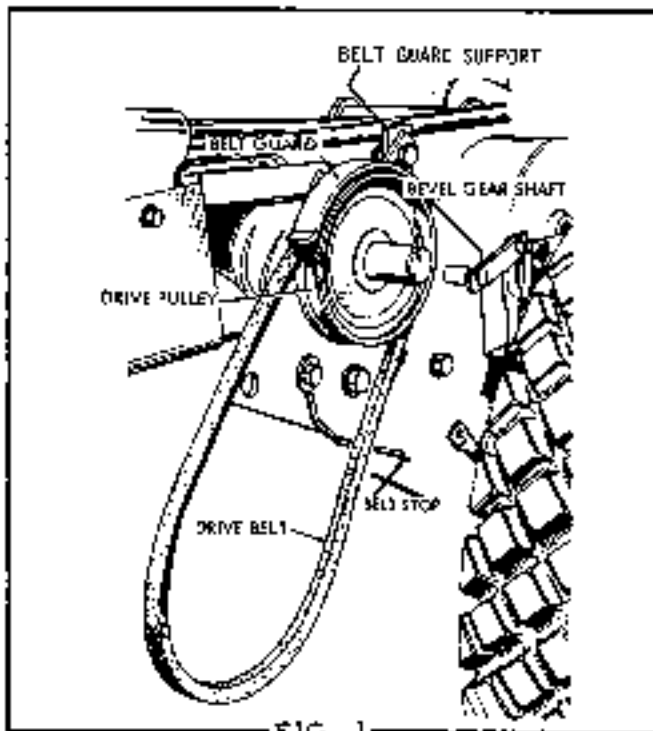

FIG. 1
5. Mount drive pulley to shaft of bevel gear assembly (Fig. 1). Hub of drive pulley is to face